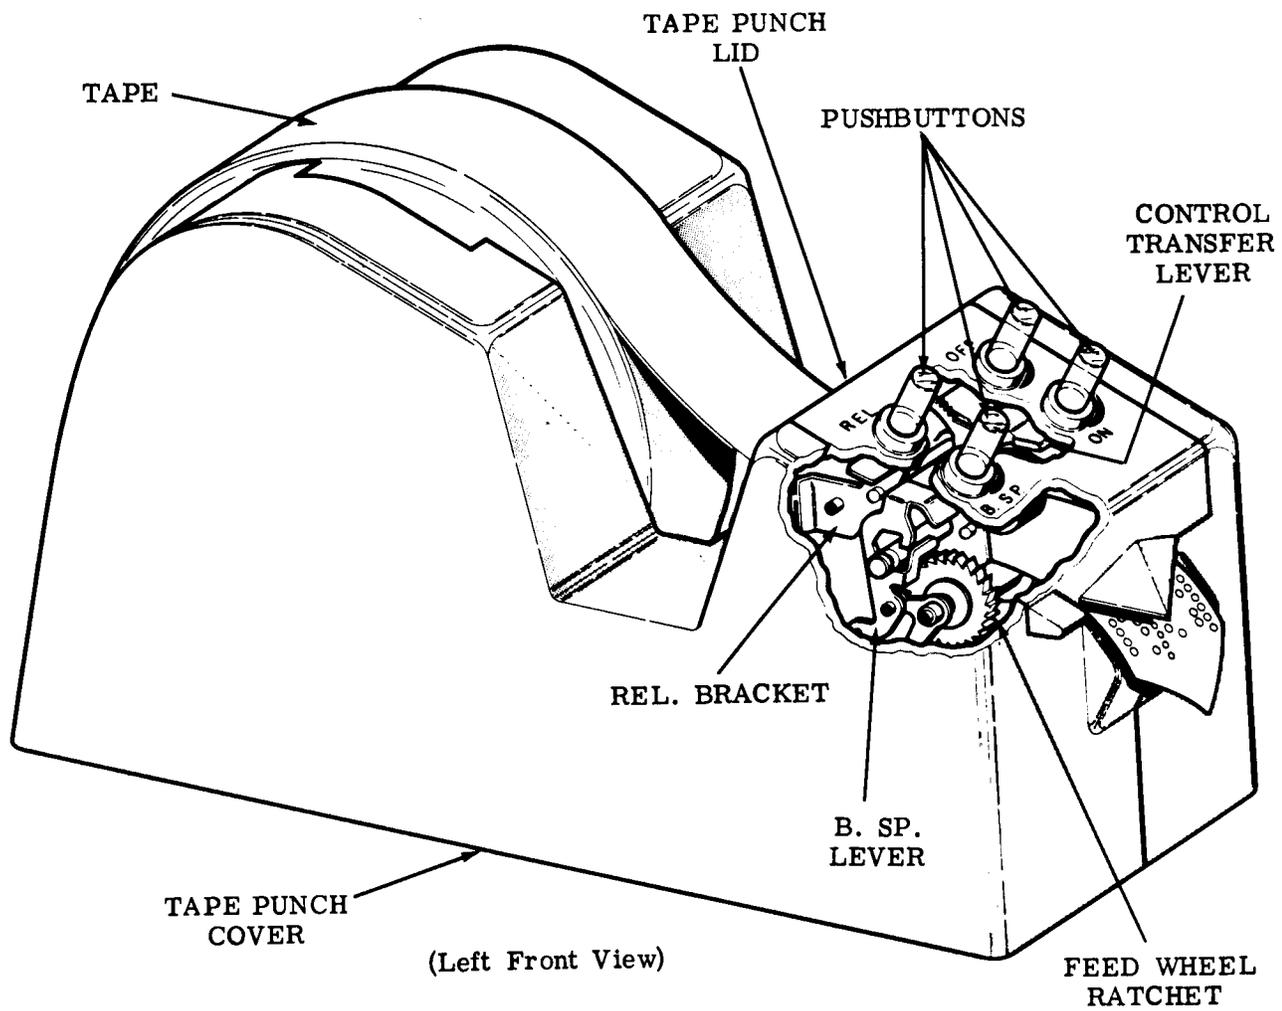

Figure 9 - Control Mechanism
the feed wheel ratchet which moves it, the feed wheel, and the tape backwards. A lever, on the backspace lever, pushes the feed pawl away from the feed wheel ratchet simultaneously (Figure 9).
6.03 Release - Depressing the REL pushbutton, causes the release lever, which is part of the tape guide mechanism, to pivot downward raising the roller away from the feed wheel. The tape can now be pulled out freely (Figure 9).